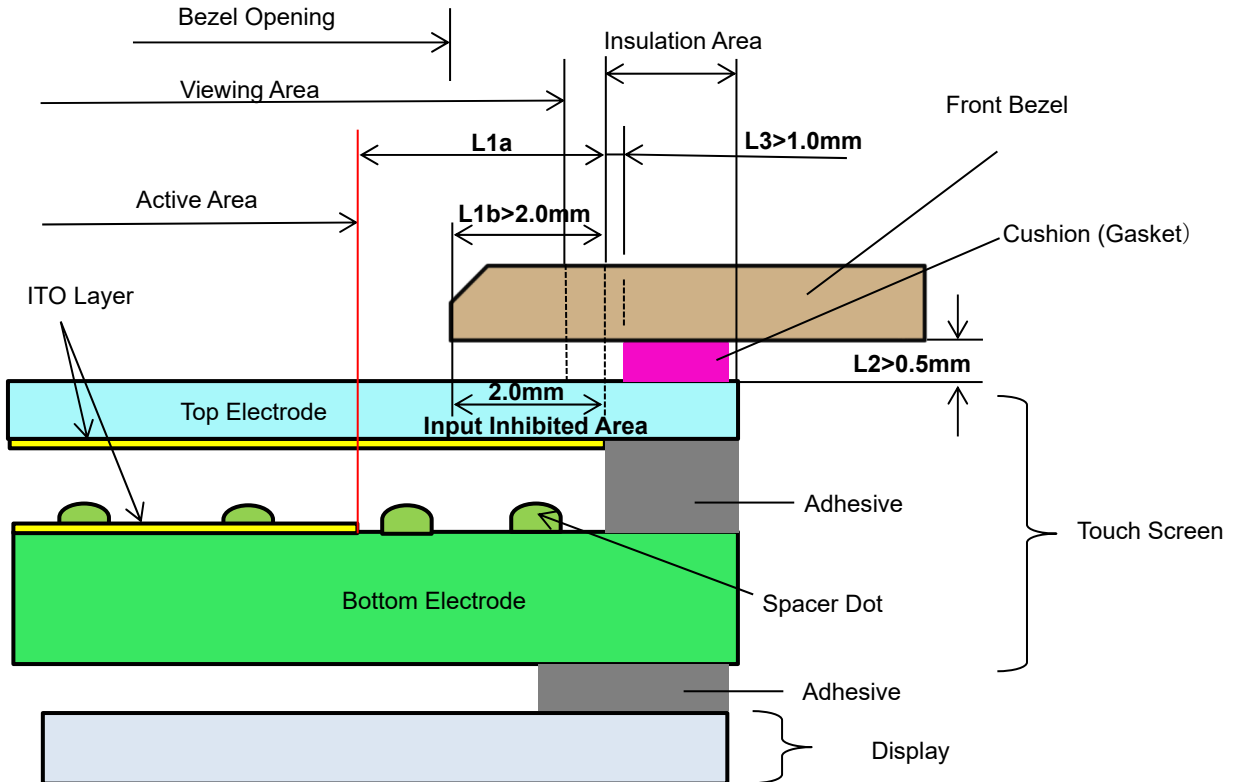

Fig.1
② Mounting Precautions
a. Bezel Edge (Fig.1&2)
b. Gap between Bezel and Touch Screen (Fig.1&3)
c. Area between Active Area and Insulation Area (Fig.1&3)
d. Input Inhibited Area (Fig.1&4)
e. Cushion (Gasket) (Fig1&5)